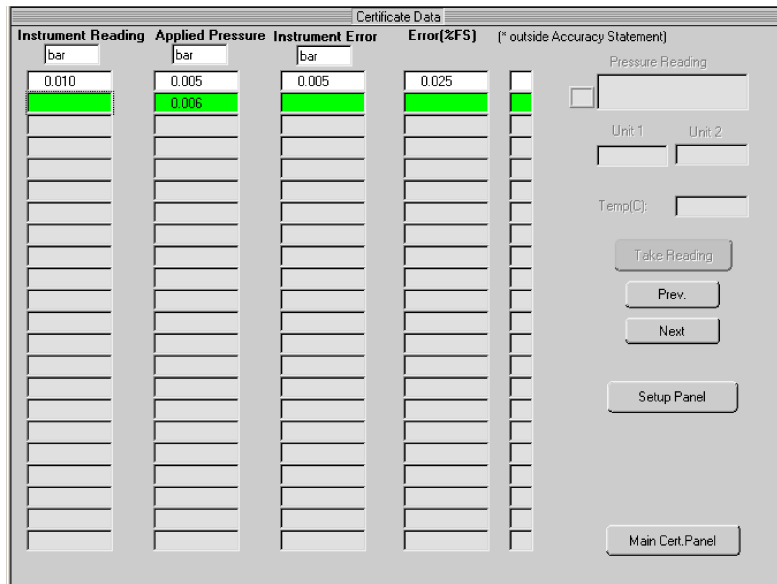

Figure 5-12: Example display - Certificate Data (Normal certificate with Stored Data)
OK: To accept the data (or accept changes to the data) and continue to the next display (See Figure 5-12).
4. To accept the settings, click on *OK* > See Figure 5-12
(Figure 5-12)